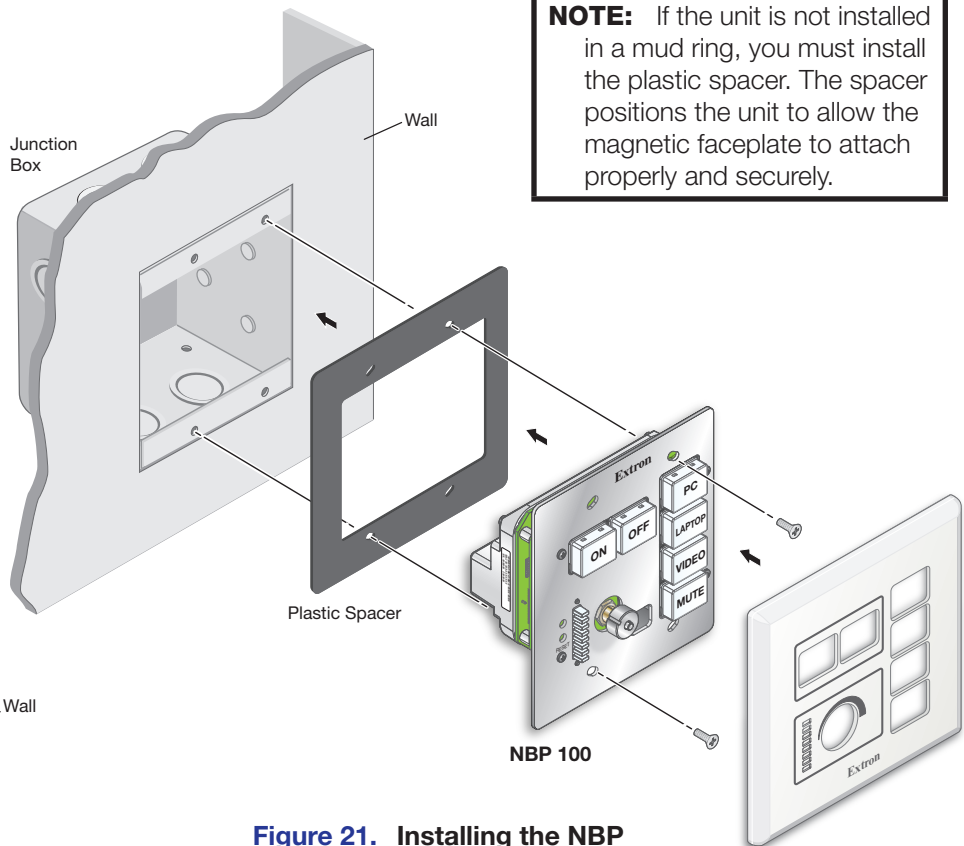
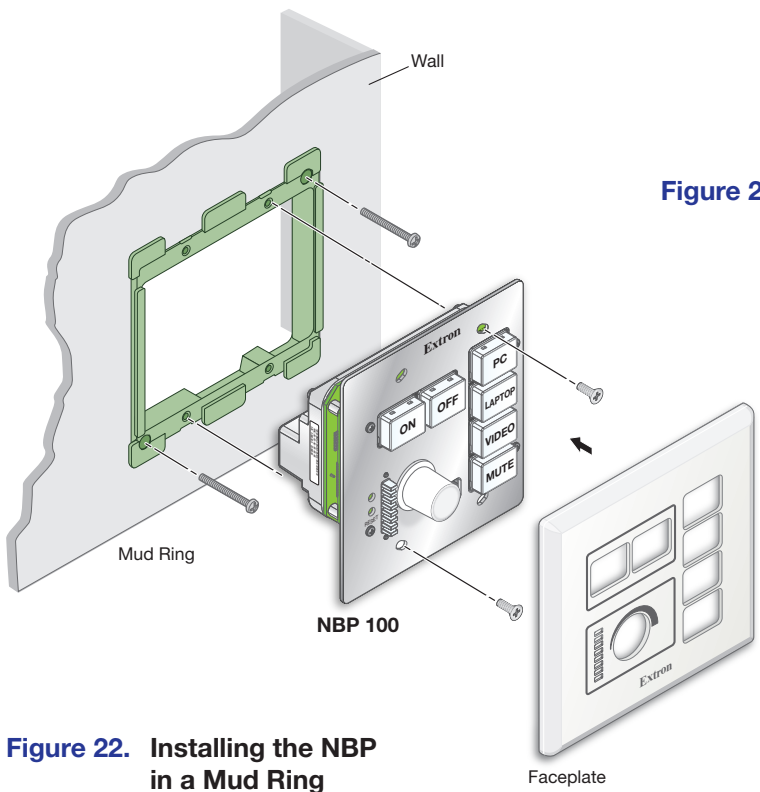

Figure 21. Installing the NBP in a Junction Box
Figure 22. Installing the NBP in a Mud Ring
For US gang models: Insert the included screws through the mounting holes at the top and bottom of the unit, through the plastic spacer (if not using a mud ring), and into the corresponding threaded holes in the box or mud ring (see figure 21 and figure 22).
- **For US gang models:** Align the faceplate openings with the buttons, knob, and LEDs, and place the faceplate against the unit (see figure 21 and figure 22 on the previous page). The magnetic catches fasten the faceplate onto the front of the unit.